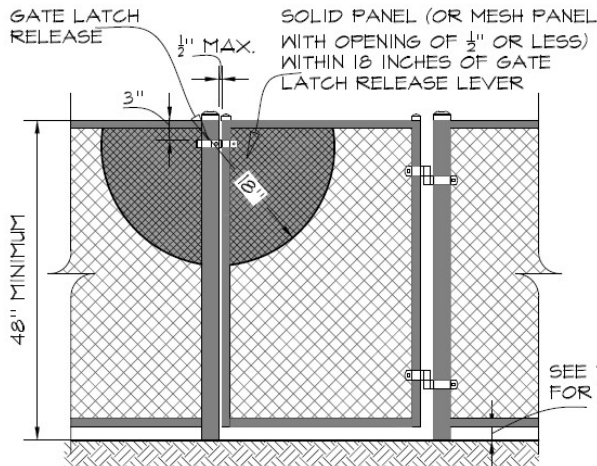

Figure 7a
2. The gate and barrier shall have no opening larger than $\frac{1}{2}$ inch within 18 inches of the release mechanism. See Figures 7a & b.